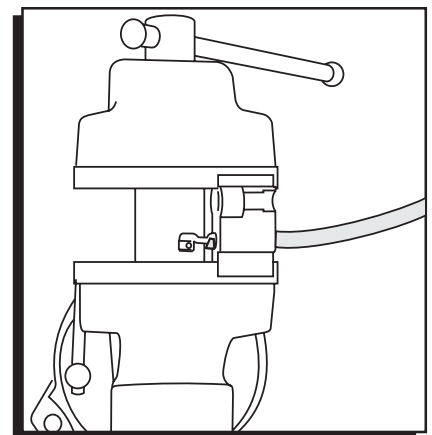

Figure 8 Crimping with the Vise.
6. Slowly close the vise making sure the tool and terminal stay properly positioned and aligned (Figure 8). Stop applying pressure when the terminal ends have wrapped securely around the sleeve and grip the wire.